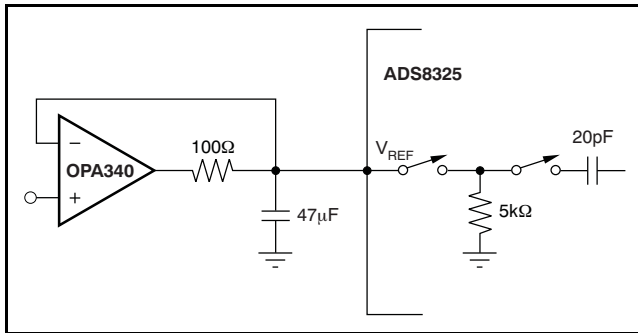

Figure 33. Input Reference Circuit and its Interface
The equivalent input circuit for the reference voltage is presented in Figure 33. The 5kΩ resistor presents a constant load during the conversion process. At the same time, an equivalent capacitor of 20pF is switched. To obtain optimum performance from the ADS8325, special care must be taken in designing the interface circuit to the reference input pin. To ensure a stable reference voltage, a 47μF tantalum capacitor with low ESR should be connected as close as possible to the input pin. If a high output impedance reference source is used, an additional operational amplifier with a current limiting resistor must be placed in front of the capacitors.
- Changed Figure 33 capacitor from 47F to 47 μ F (typo) 18